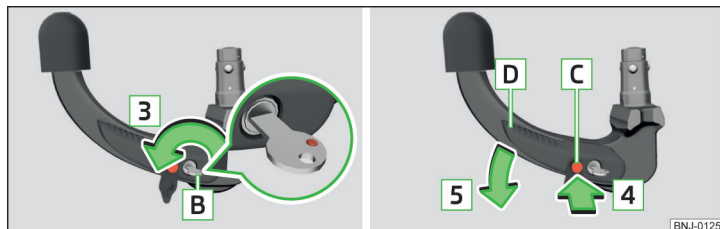

Fig. 234 Lock unlock / press release bolt and lever and push
- › Turn key **B** in the direction of arrow **3** so that the red marking is pointing upwards » Fig. 234.